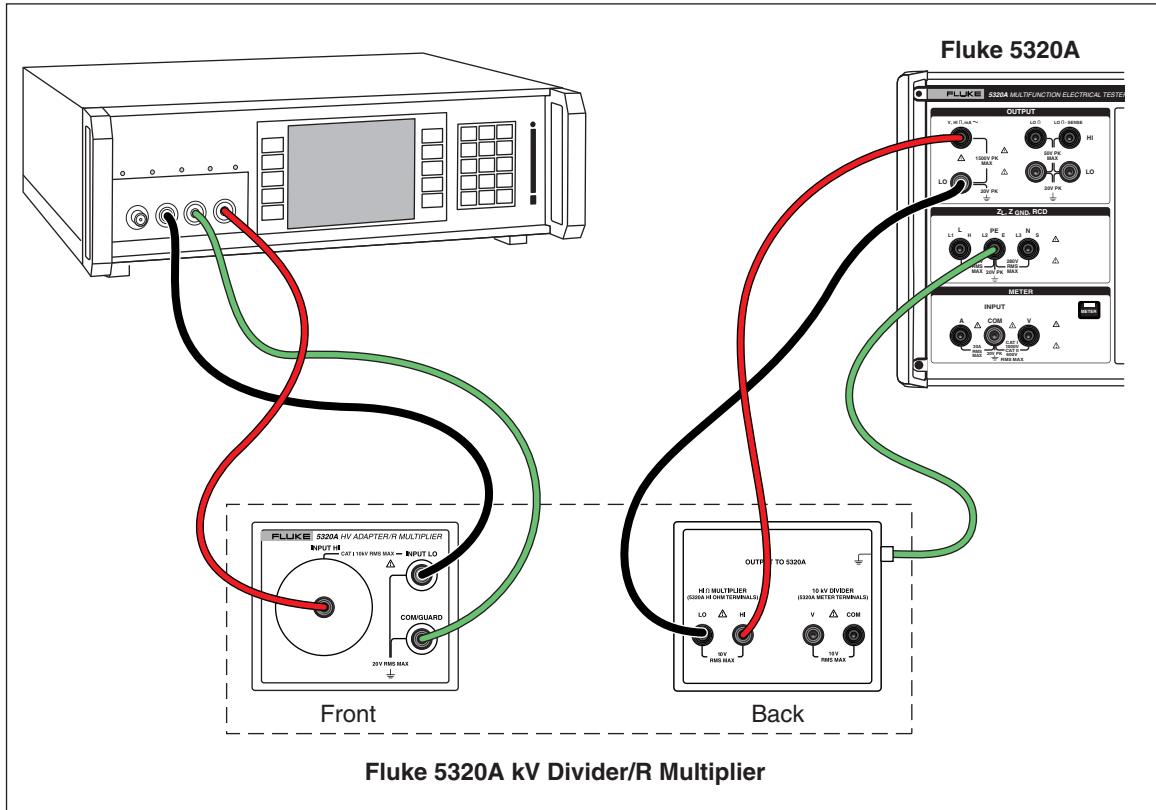

Figure 7-7. Connections to Bench Tester when using Resistance Multiplier Adapter.
2. Using Figure 7-7 or 7-8, connect the UUT to the resistance multiplier adapter and the Calibrator.